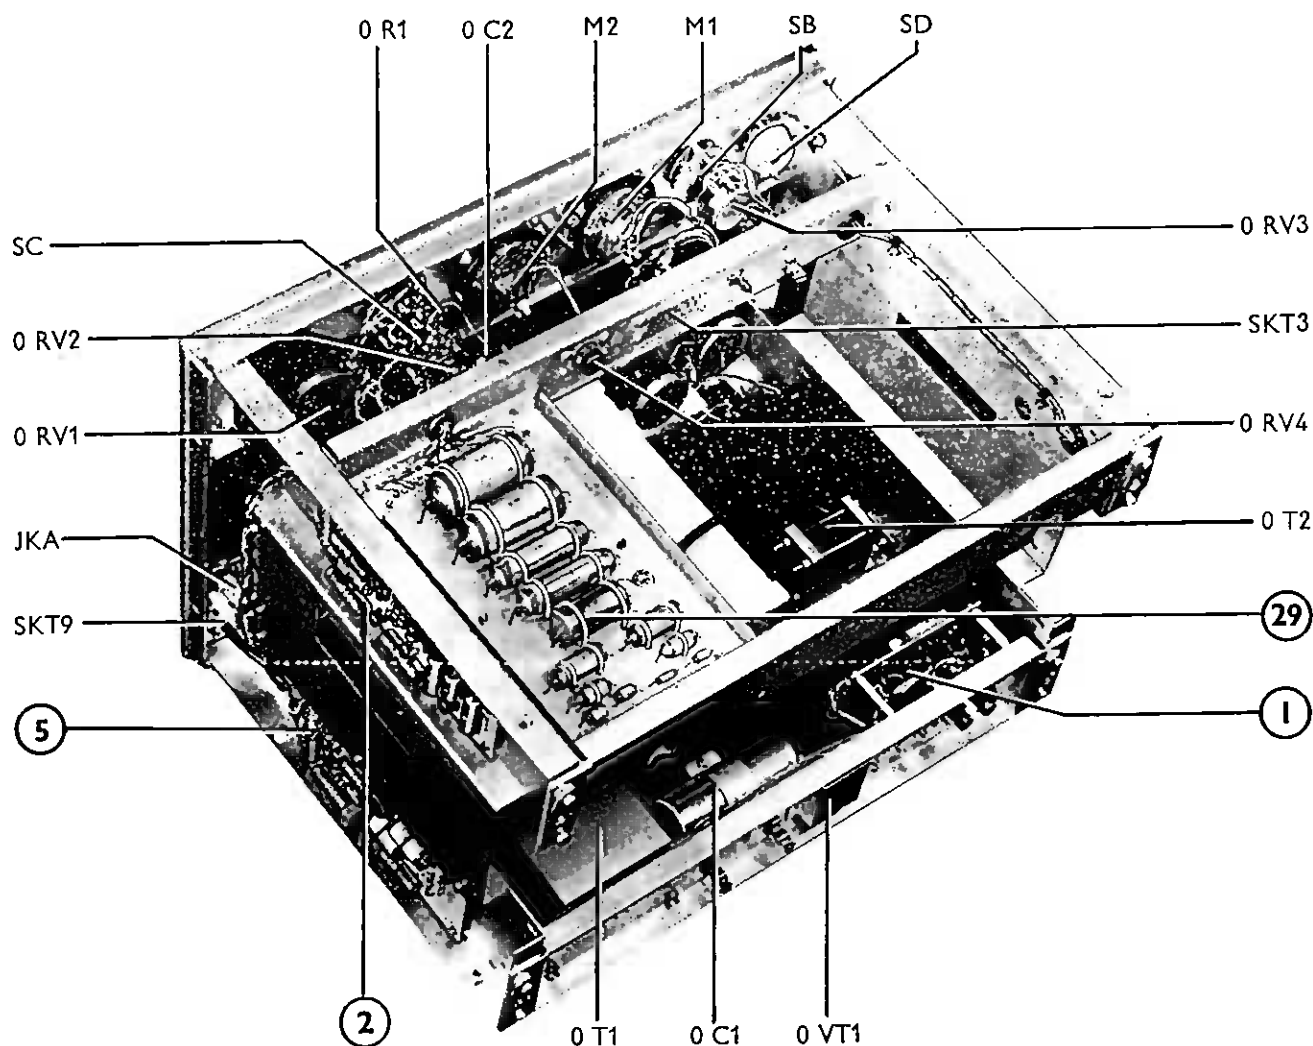
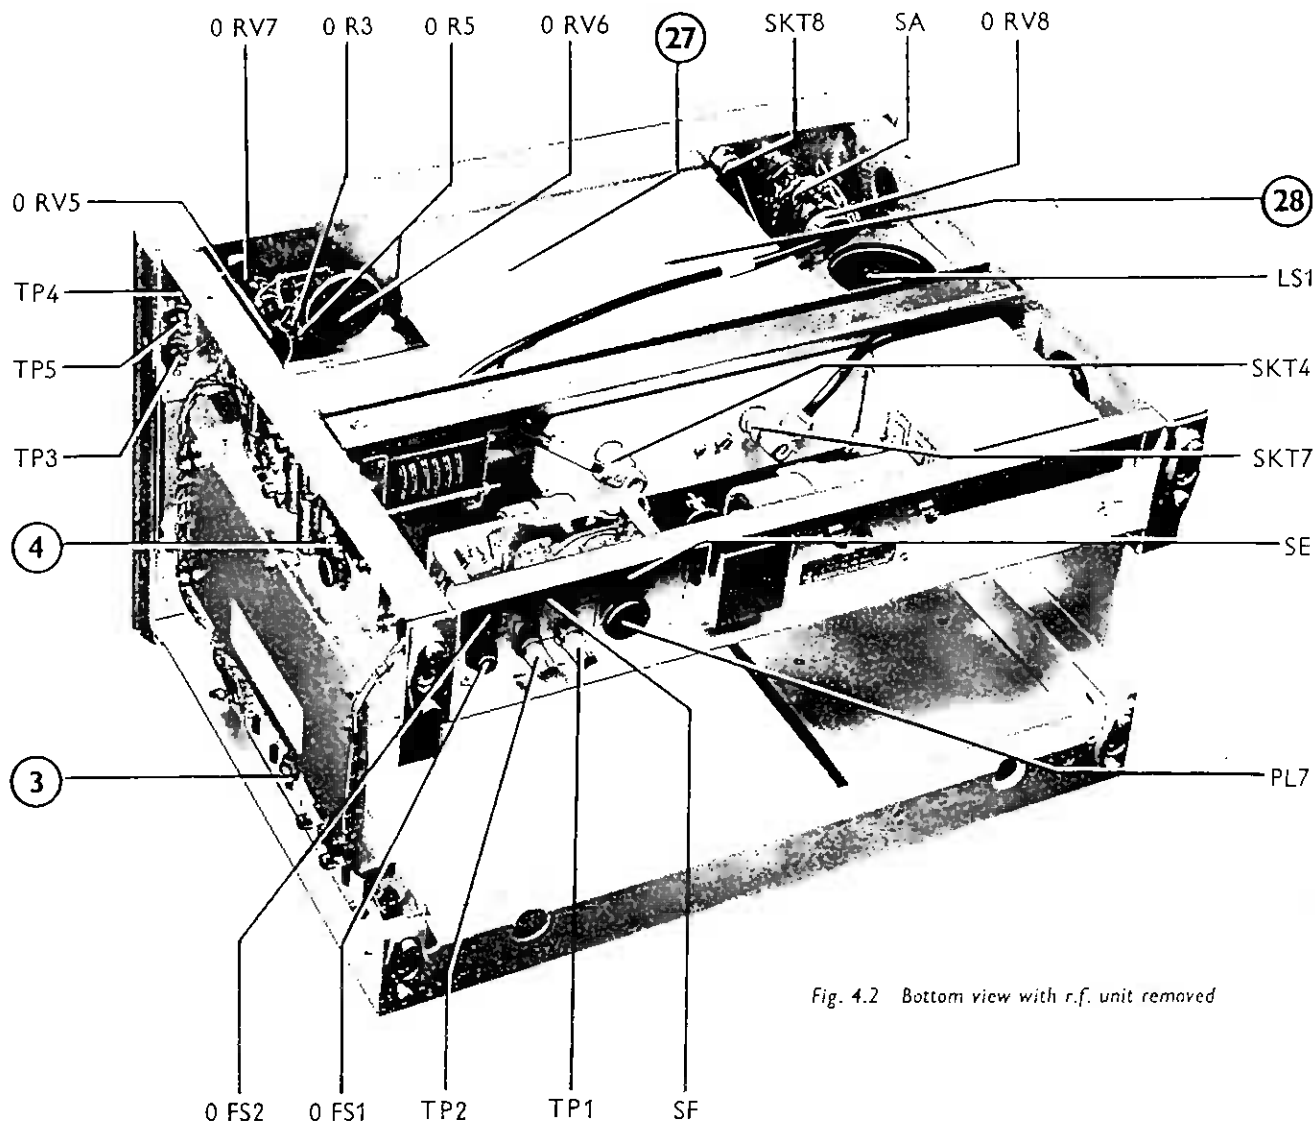

Fig. 4.1 Top view with r.f. unit removed
Fig. 4.2 Bottom view with r.f. unit removed
To remove the outer case of the instrument extract the four coin-slotted 2 BA screws at the rear and slide the instrument forward out of the case. With the case off the following boards are accessible, ①, ②, ③, ④, ⑤, ②⑨; for the location of these boards and other components see Fig. 4.1 and Fig. 4.2.